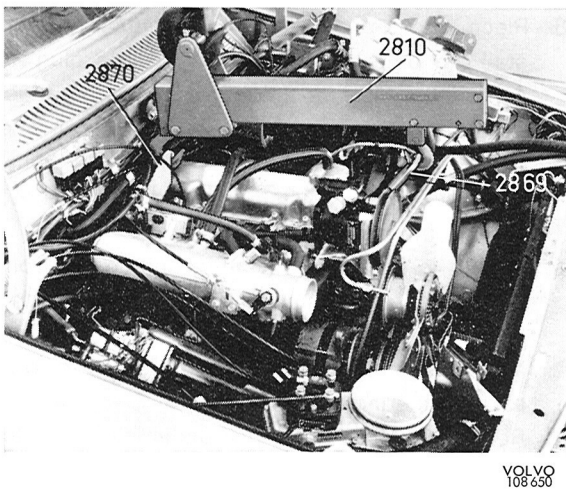

Fig. 2-18. Lifting out engine
26. Attach lifting beam 2810 to the lugs and adjust the trolley to the rear position. Lift the engine rear end, see Fig. 2-18.